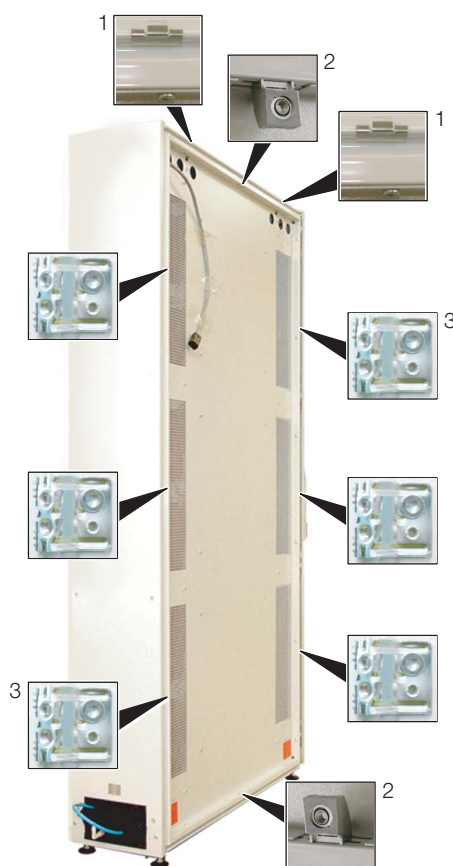

Fig. 29: Assembly components for the side panel
- Place both side panel mountings (Fig. 29, Pos. 1) as symmetrically as possible onto the upper mounting rail of the LCP and, using your hand, press them firmly in place.
- Screw down the two side panel mounting brackets (Fig. 29, Pos. 2) above and below in the middle of the mounting rail using one screw each.
- Screw down 3 side panel holders (Fig. 29, Pos. 3) onto each of the two side assembly rails with one screw each.